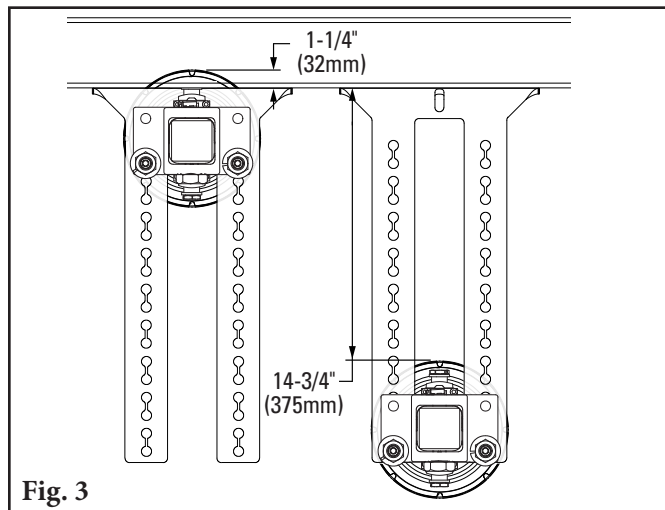

Fig. 3
- 3. Position mounting brackets.** May be mounted to existing idler hole patterns. Overall range of adjustment on brackets is 1-5/8" (41mm) above the top flange or 7" (178mm) below the top flange (Fig. 3).
3. **Position mounting brackets.** May be mounted to existing idler hole patterns. Overall range of adjustment on brackets is 1-1/4" (32mm) above the top flange or 14-3/4" (375mm) below the top flange (Fig. 3).